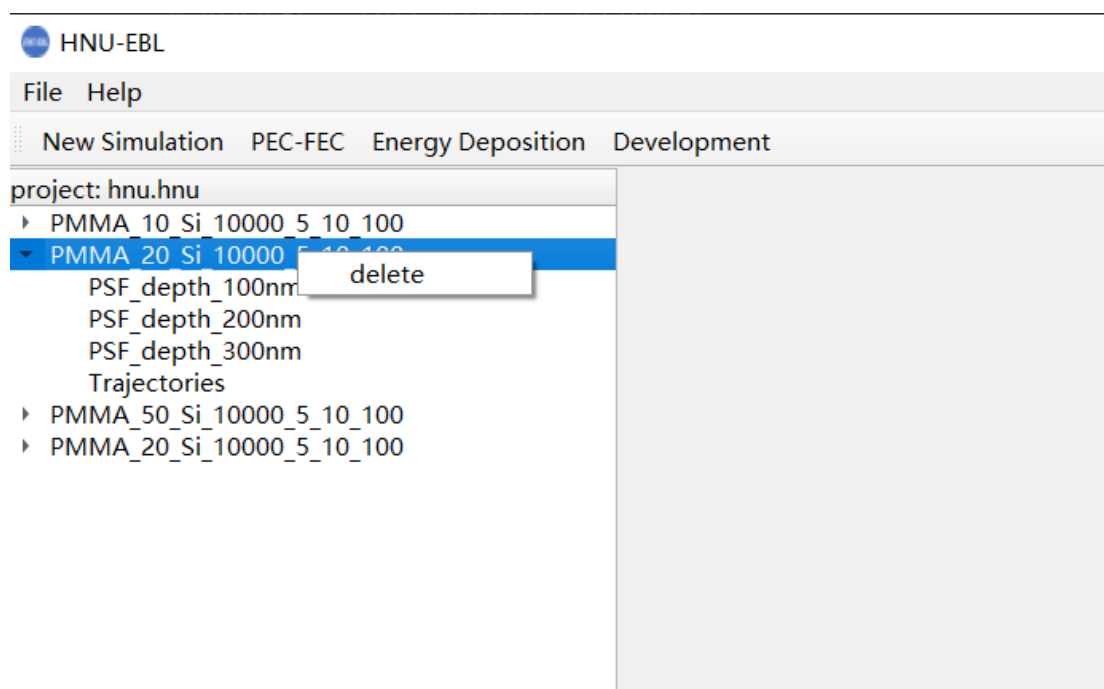

Figure 2.3.4 Delete Monte Carlo calculation result interface
(4) You can right-click the MC simulation result on the left and left-click "delete" to delete the MC simulation result(Figure 2.3.4).